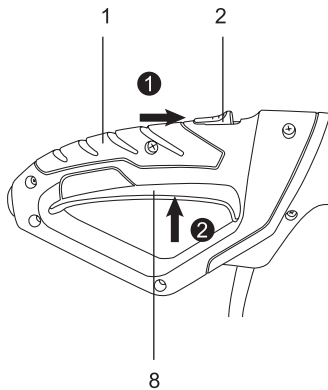

Fig. 24
1. Ensure the saw chain (14) does not come into contact with anything before starting the product.
2. Grip the product with both hands, your left hand holding the gripping surface (9) and your right hand holding the rear handle (1). Do not start the product while handling it with one hand.
3. Push the lock-off button (2) forward with your right thumb, then fully depress the on/off switch (8) with your index fingers and hold it in this position. (Fig. 24)